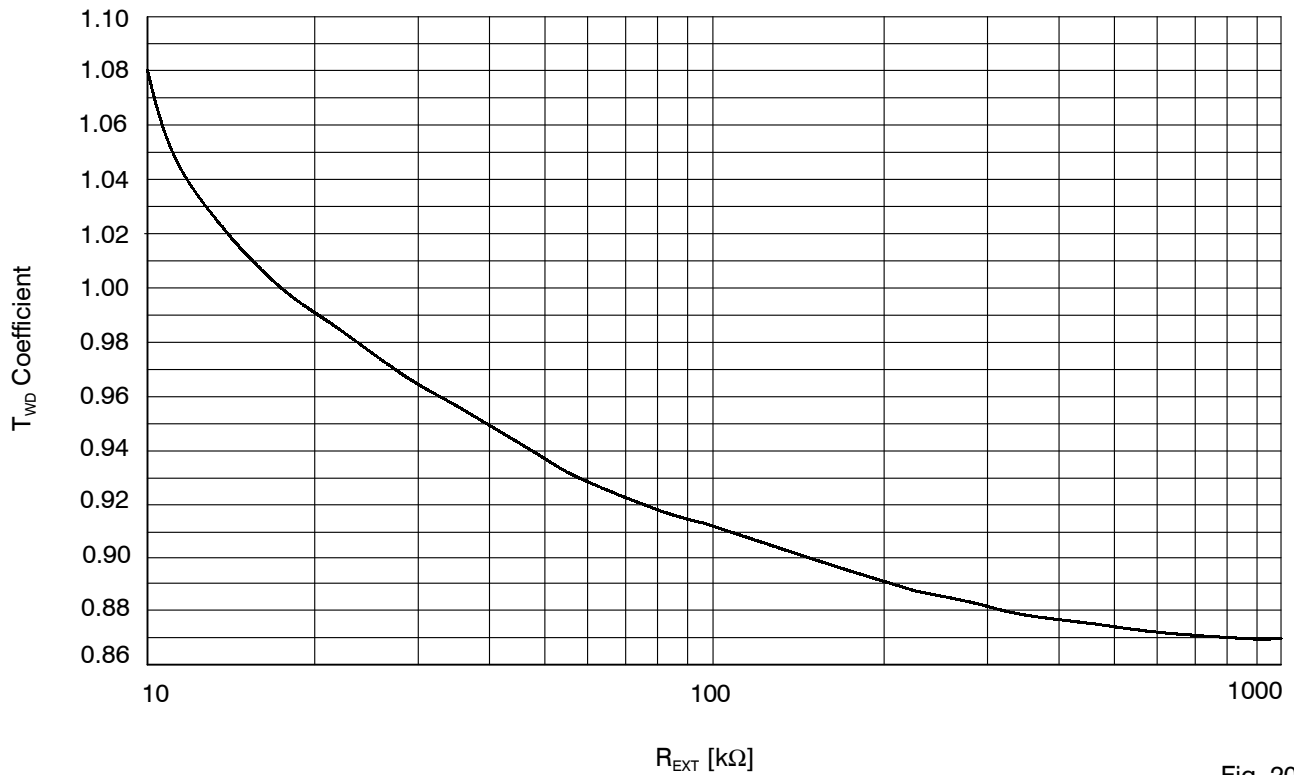
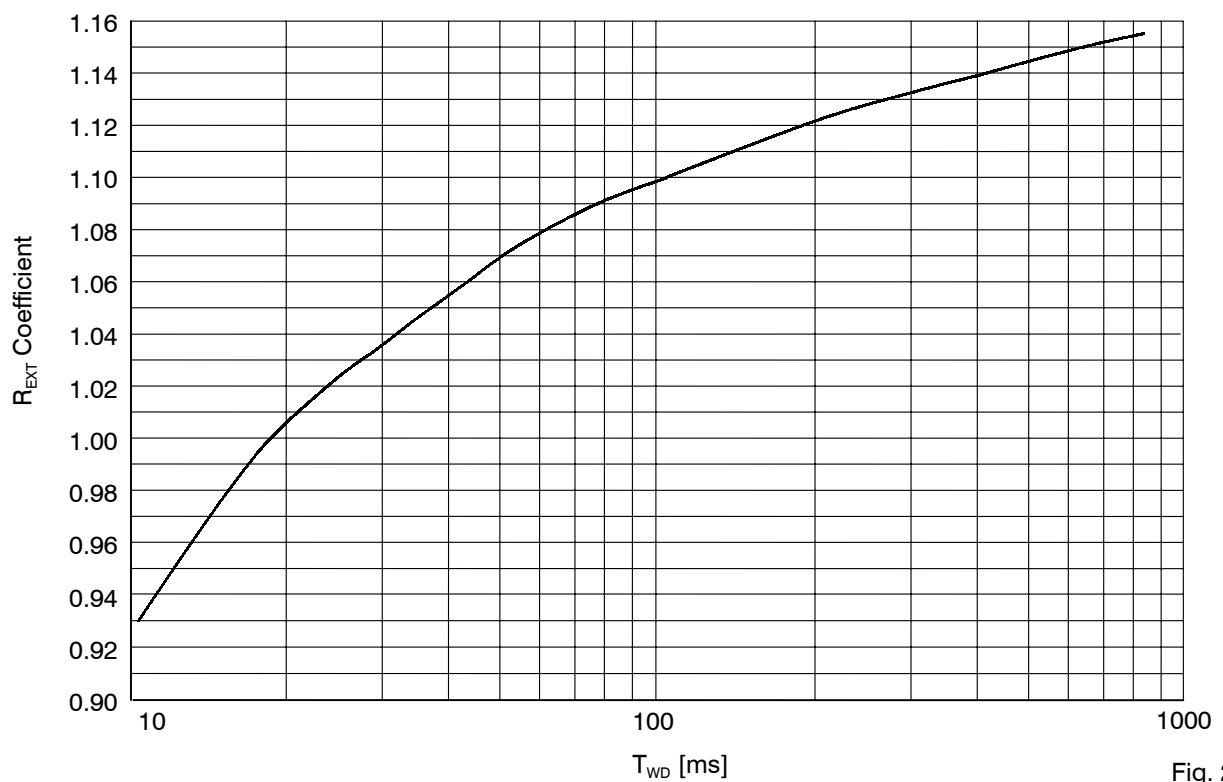

Fig. 20
Fig. 21
Related to curves (Fig. 10 to Fig. 21), especially Fig. 20 and Fig. 21, the relation between  $T_{WD}$  and  $R_{EXT}$  could easily be defined. Let us take an example describing the variations due to production and temperature:
2. Related to Fig. 21, the coefficient ( $T_{WD}$  to  $R_{EXT}$ ) is 1.025 where  $R_{EXT}$  is in k $\Omega$  and  $T_{WD}$  in ms.